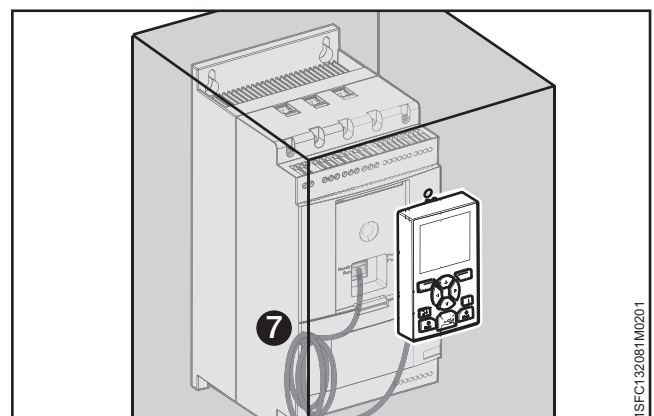

Figure 4.12
5. Make sure that the network cable is properly inserted into the 2 ports. Prevent the rest of the cable to get caught between the door, see **7** in **Figure 4.12**. Close the door of the enclosure and set the operation voltage switch to ON. Make sure that the external HMI works.